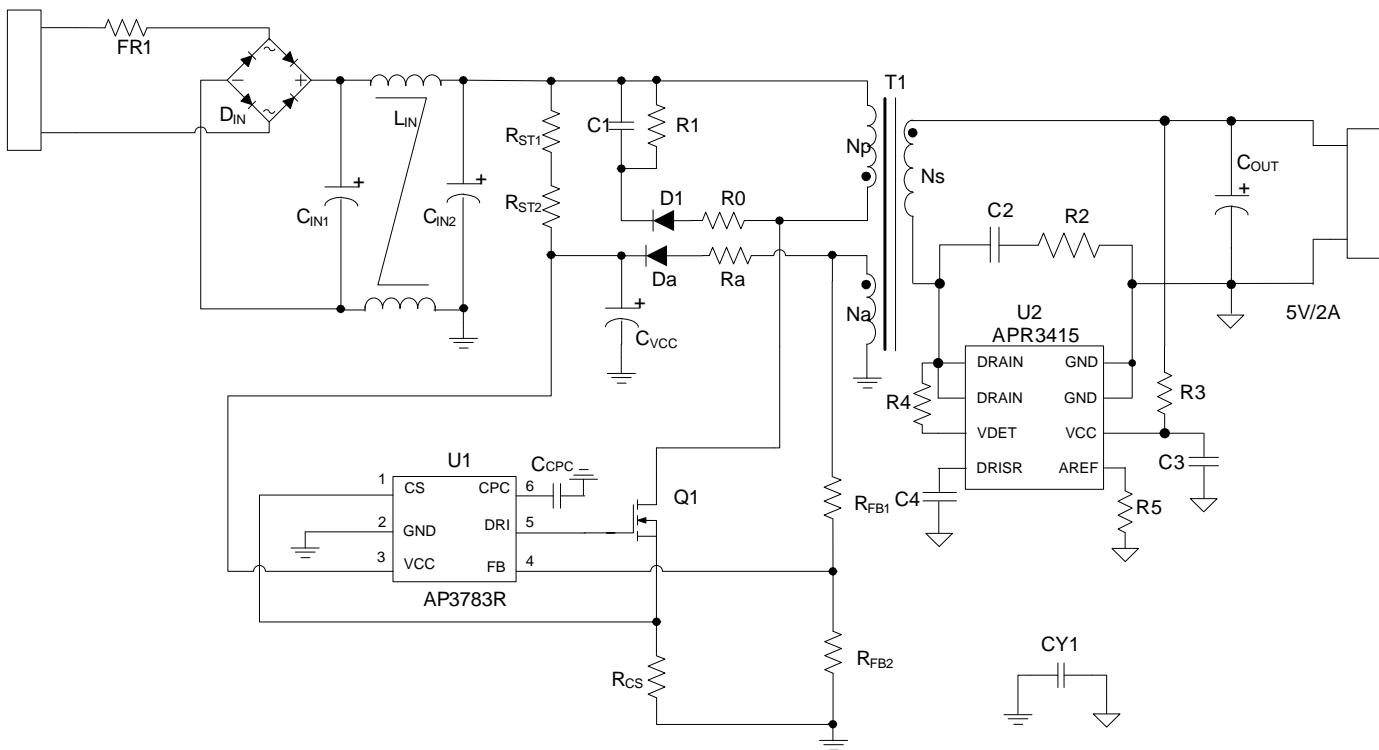

Figure 1. Typical Application Circuit of AP3783R
Figure 1 is the typical application circuit of AP3783R, which is a conventional Flyback converter with a 3-winding transformer---primary winding (NP), secondary winding (Ns) and auxiliary winding (NAUX). The auxiliary winding is used for providing VCC supply voltage for IC and sensing the output voltage feedback signal to FB pin.
For primary-side regulation, the primary current  $i_P(t)$  is sensed by a current sense resistor  $R_{CS}$  (as shown in Figure 1).The current rises up linearly at a rate of: